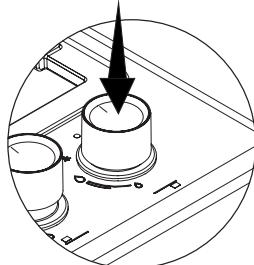
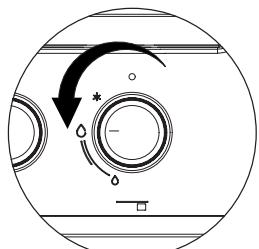

Figure 9
Figure 11
3. To use the hob burner of your preference, first press the knob in the direction of the arrow and wait 5 seconds for air to escape from the pipes (see Fig. 9).
*** On models with (automatic) ignition with a knob;** you can ignite the hob burner of your preference by pressing the knob in the direction of the arrow (see Fig. 9) and rotating the knob in the direction of the arrow (see Fig. 11).